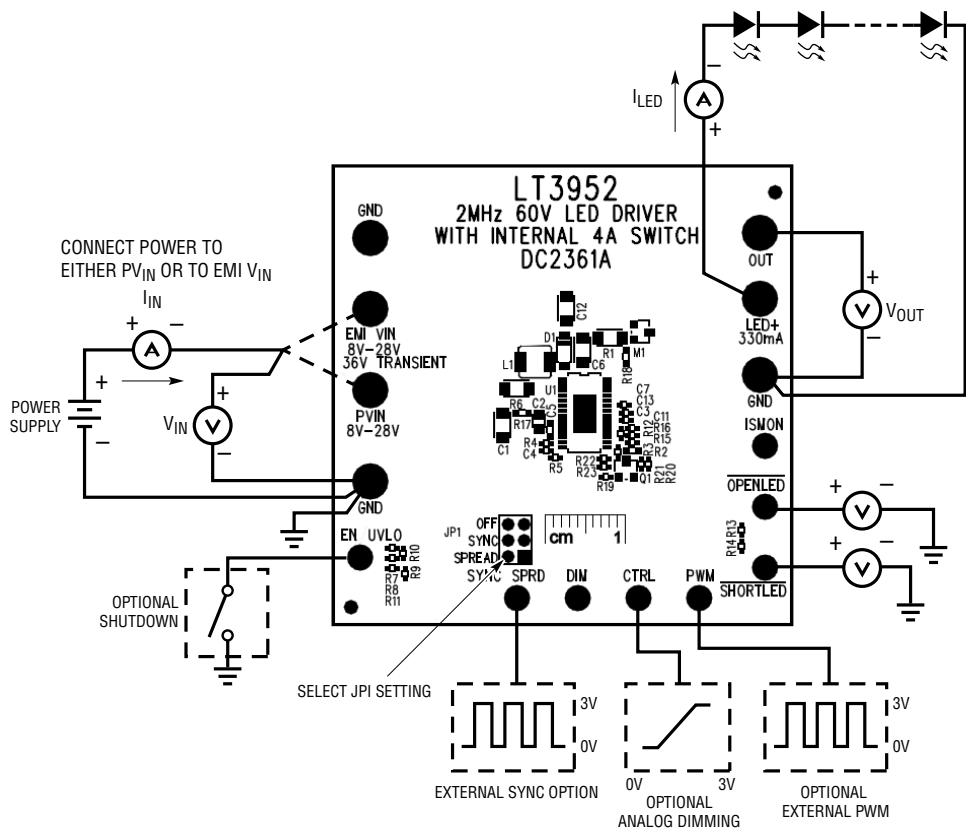

Figure 1. Test Procedure Setup Drawing for DC2361A
1. Connect a string of LEDs that will run with forward voltage less than or equal to 40V (at 330mA), but greater than PV_{IN} , to the LED^+ and GND terminals on the PCB as shown in Figure 1.